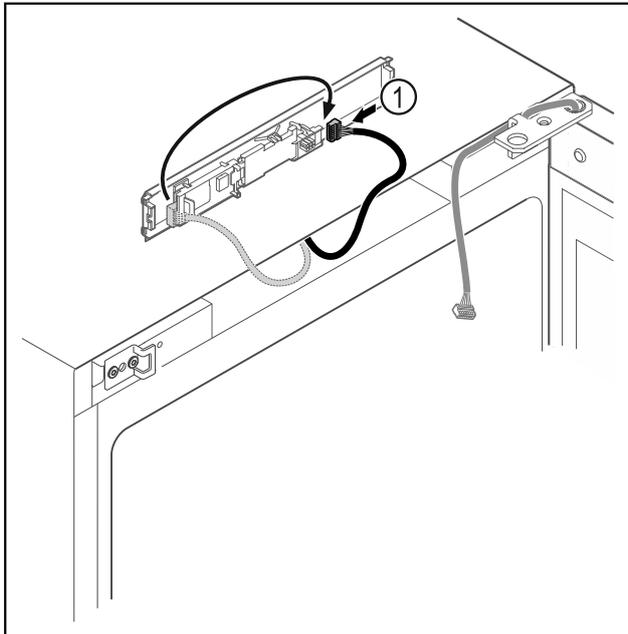

Fig. 9
- ▶ Connect the plug Fig. 9 (1) to the circuit board.